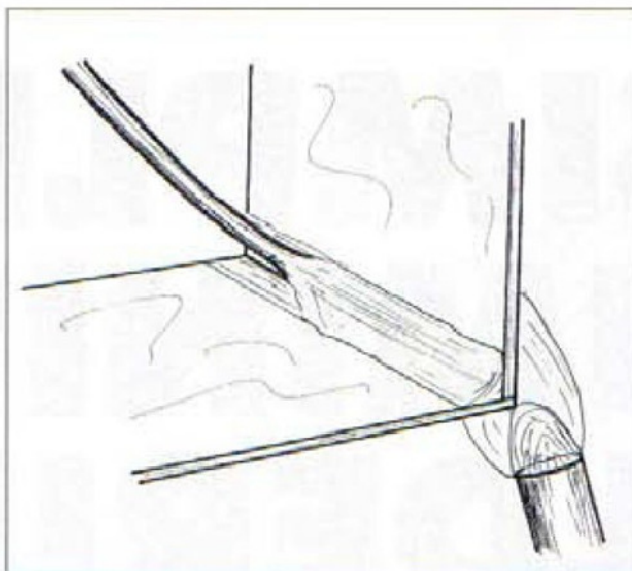

Fig. 4. Jig or clamp the parts to be joined and run a fillet of solder across the join.
6. Heat and run a fillet of solder to complete the join (Fig. 4).